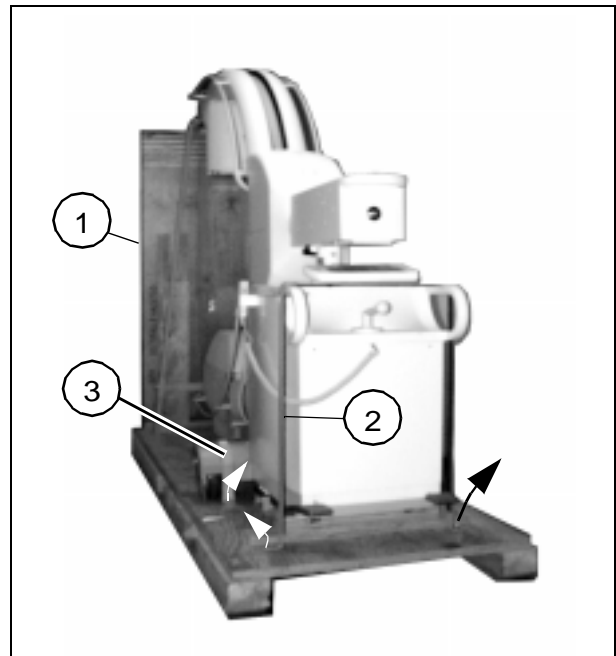

Fig. 2
- Remove unloading ramp (1/Fig. 2) from pallet.
- Unscrew retainer bracket (2/Fig. 2) and remove.
- Unscrew retainer bracket (3/Fig. 2) on both sides and remove.